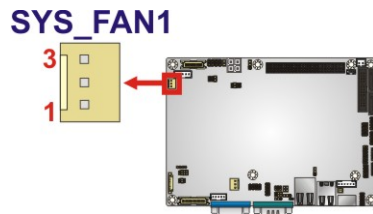

Figure 3-7: +12V Fan Connector Locations
- CN Location:** See **Figure 3-7**